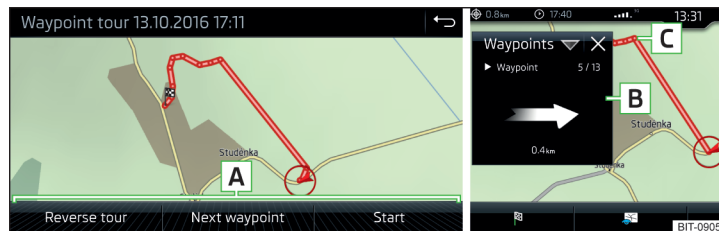

Fig. 251 Display a waypoint / guide along a waypoint tour
- Select one of the following menus **A** » Fig. 251.
While driving along a waypoint tour, the split screen shows the **Waypoints** and the direction to drive as well as the distance to the next waypoint, the sequence number of the next waypoint and the total number of waypoints **B** » Fig. 251.
The waypoint tour from the vehicle position to the next waypoint “reduces” continuously while driving “ ” **C** » Fig. 251.
- > Display the waypoint tour » Fig. 251 on page 199